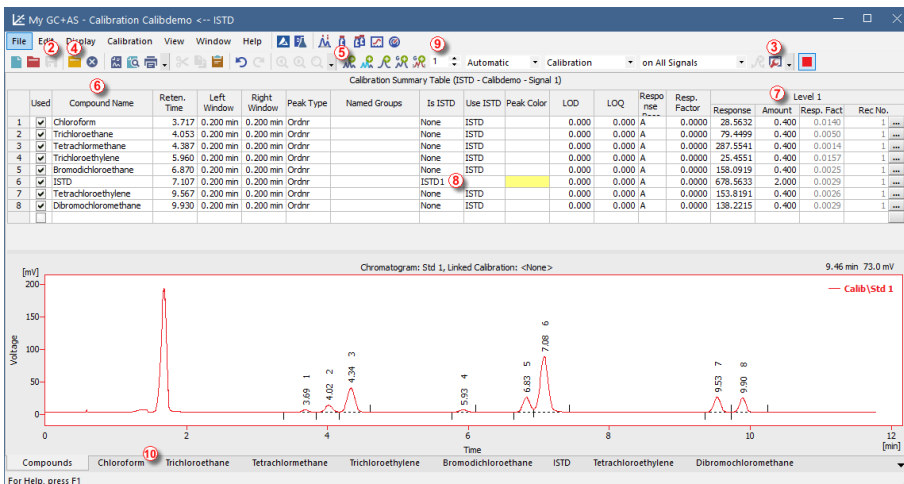

Fig 9: Calibration window - loaded standard
- Only one signal of the chromatogram can be active at a time. The active signal can be recognized from the legend section (1) in the upper right corner of the graph (active signal is set in bold), from the icons in the **Overlay** toolbar (2) (the active signal has the highlighted ■ icon) or from the graph outline color and table headers color. Values inside the tables change by changing the active signal.
- Change the active signal by double clicking on its name in the legend section (1). Change the color of the currently active signal to another one
- by clicking on the *Not used color*  icon in the *Overlay* toolbar. All parts of the **Chromatogram** window mentioned in the previous step will change color. Return to the former active signal by clicking on its (now raised ) icon in the *Overlay* toolbar ②.
- Click on any row in the *Result table* ③. The peak (or peaks) corresponding to the row you just clicked onto will change color according to the color of the signal. This change will last until the focus in the *Result table* is canceled.
- To add permanent color to the peak, click the *View* button ④ in the right side of the **Results** tab. This will get you to the linked calibration file. There, in the *Calibration Summary Table*, find the *Peak Color* column (see **Fig 9** on pg 20.). In the row corresponding to the peak to be colored select the appropriate color and click *OK*. Return to the **Chromatogram** window by using the  icon in the menu. The selected peak is now colored according to the color selected in the **Calibration** window.
- You can change the integration of peaks by using the interactive icons on the toolbars on the left side of the **Chromatogram** window ⑤ or directly on the **Integration** tab ⑥. Any changes made either way will change the **Integration table** and can be copied to the template method. To do so, click on *Method - Save as Template...* menu comand.
- Check that the **Current Level** field ⑨ is set to 1 in order to set the calibration level number 1. Use the **Add All** icon (blue) ⑤ to move all identified peaks to the calibration table. The Calibration table appears in the **Calibration** window, ready to be completed as seen on **Fig 9** on pg 20.
- As it can be clearly seen in the calibration, particular peaks are now identified according to their retention times only. Click and edit the fields in the **Compound Name** column ⑥ to those seen on **Fig 9** on pg 20. You may also set the peak color for some peak, for example the ISTD peak, in the **Peak Color** column.
- Fill the **Amount** column ⑦ with the concentration of the particular compounds. In this standard mixture, all compounds except for the peak number 6 have concentration of 0.4.
- Peak number 6 is marked as an ISTD peak. In the **Is ISTD** column, change its type to ISTD1 ⑧ and then set its amount in the **Amount** column to 2.
- The first calibration level is now set. On the tabs of the individual compounds ⑩ (named according to the **Compound Name** field) the graph with single-point linear calibration can be seen.
- Proceed to setting the other calibration levels. The operation is quite simple and straightforward - use the **Open Standard** icon (yellow) ④ again to open another calibration standard named STD 2.PRM. Set the calibration level in the **Current Level** field ⑨ to 2 and use the **Add All** icon (blue) ⑤. Fill in the **Amount** column with 1.0 values (except for the ISTD peak, in which the 2 value should be used again).